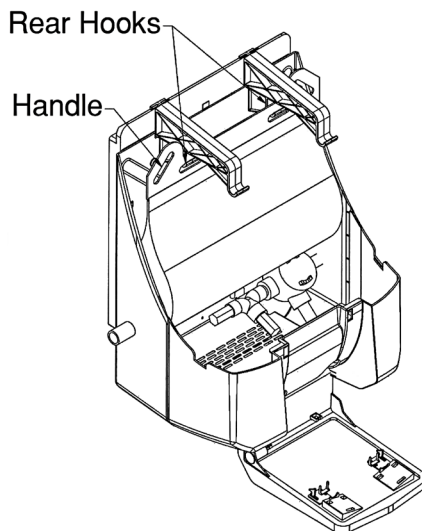

FIGURE 6
- A. Lift first Cartridge by handle provided and place on rear hooks of Hanger bracket (**Ref Figure 6**).